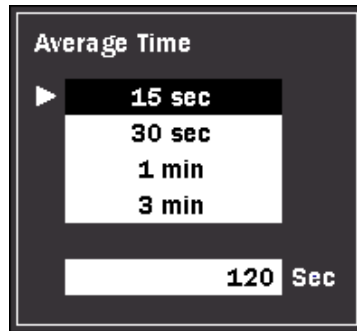

Figure 4-24: Average Time Dialog box
Specify the Average Time/Average Count by either selecting one of the four pre-set values or by entering the desired value in the field at the bottom of the dialogbox (see Figure 4-24 on page 4-73).
1. Press **Average Time (f1)**. The Average Time dialog box appears (see Figure 4-24 on page 4-73).
The “Time” and “Count” selections are available only when the language is set to Chinese and are not shown in Figure 4-24.
Use the following procedure to specify the Average Time/Average Count by either selecting one of the four pre-set values or by entering the desired value in the field at the bottom of the dialog box (see Figure 4-24 on page 4-73).